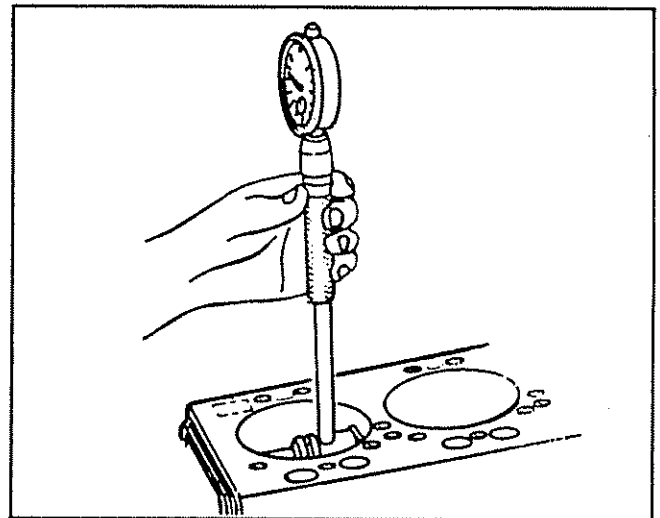

Fig. 8-111 Using Telescoping Gauge To Check Cylinder For Taper And Out-of-Round
- a. Measure cylinder-bore diameter with a telescope gauge 2-1/2 in. (64 mm) from top of cylinder bore (Figure 8-111).